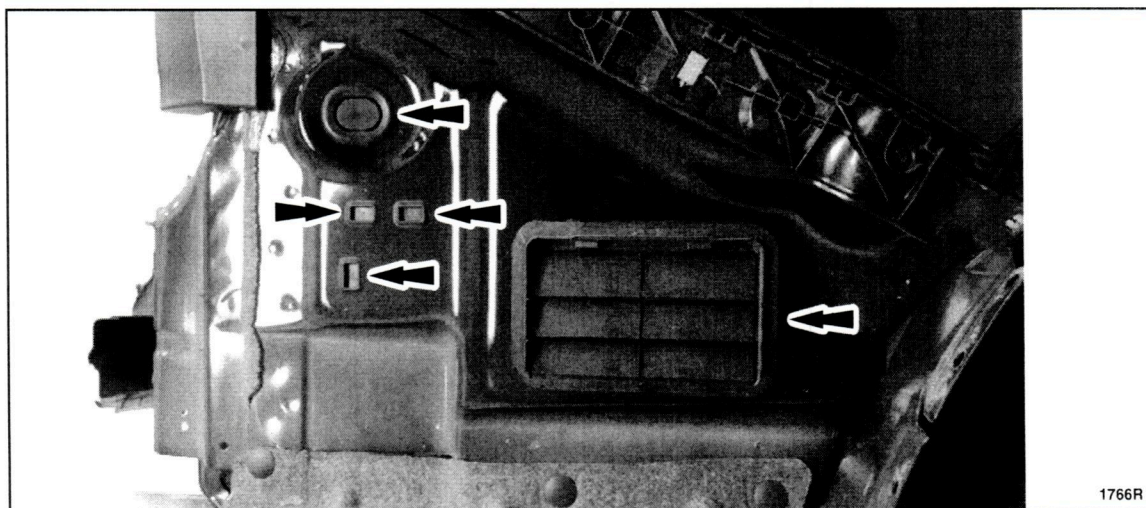

FIGURE 3
2. Using a telescoping mirror and flashlight, inspect the 4 body plugs and air extractor through the wheelhouse openings on each side of the vehicle. See Figure 3.